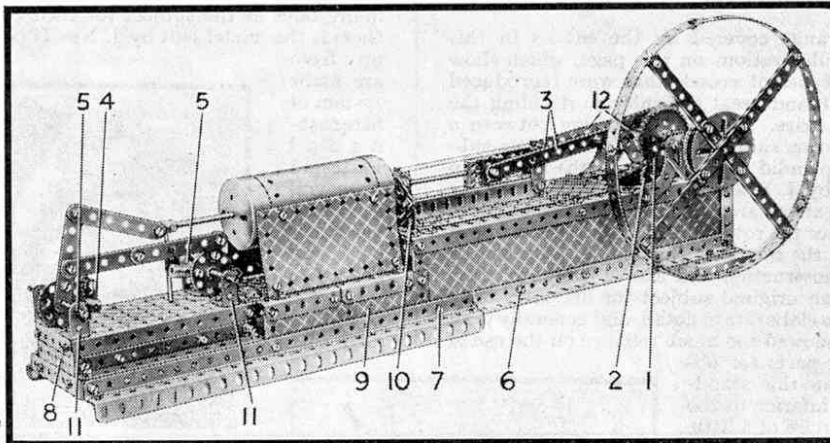

Fig. 1. A neat working model of a Pumping Engine, operated by an Electric Motor and built with Outfit G.
**P**UMPING ENGINE models have often been described and illustrated in the "M.M.," but the engine shown in Fig. 1 justifies the appearance of yet another model of this kind. Although this is a simple one, built with Outfit G, it is one of the neatest that have ever been designed.
In building the model, construction should be commenced with the base as shown in Fig. 1. The cylinder, which is represented by a Boiler, is next secured in position. This is done by bolting a  $4\frac{1}{2}'' \times 2\frac{1}{2}''$  Flexible Plate on opposite sides of the Boiler, and joining these to the two  $3\frac{1}{2}'' \times 2\frac{1}{2}''$  Flanged Plates which are fastened to the Flexible Plates 9, by means of Angle Brackets. A washer should be placed on the shank of each bolt, between the  $4\frac{1}{2}'' \times 2\frac{1}{2}''$  Flexible Plates and the Boiler, in order to leave sufficient room to enable the Boiler Ends to be pushed into position.